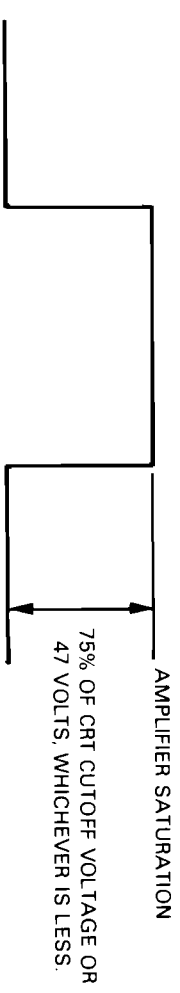

Figure 5-5. Z-axis Gain and Offset Adjustment
- Adjust Z-axis offset (A5R21) such that the positive position of the pulse is just equal to the maximum Z-axis output, maintaining the same peak-to-peak amplitude obtained in step h (see figure 5-5).